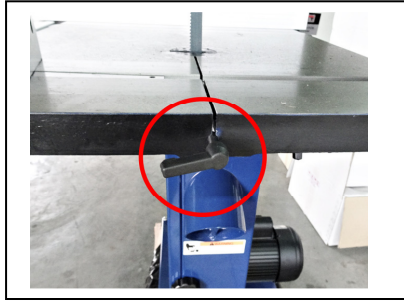

Figure 16
1. Insert table pin into the table groove.(Figure 16)